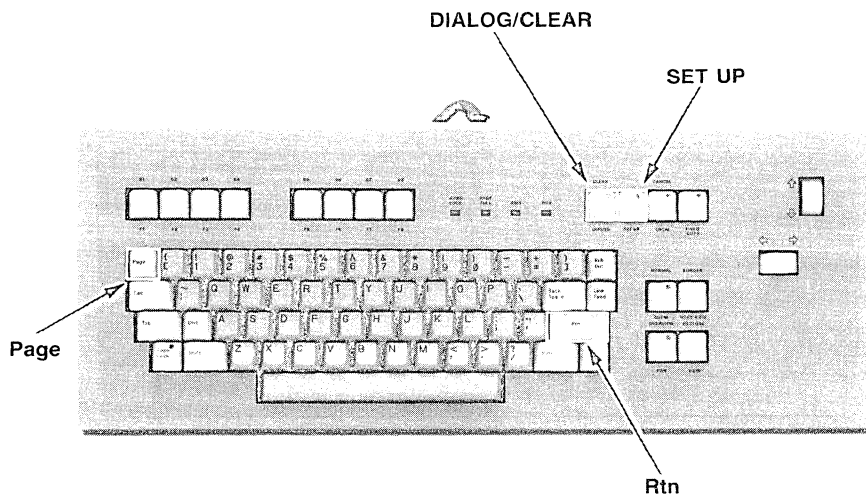

Figure F-4. Page, DIALOG/CLEAR, SET UP, and Rtn keys.
4. Press the DIALOG key (Figure F-4). The light in the key comes on and the dialog area becomes visible. Even though it is visible, you can't see anything in it since it has not yet been enabled.
5. Press the SET UP key (Figure F-4). The light in the key comes on and an asterisk appears at the left margin, next to the cursor.
6. Enter the following setup command to enable the dialog area (the C_R means press the Rtn key, Figure F-4).
8. Press the Page key (Figure F-4). This erases the part of the screen that is not displaying the dialog area. The dialog area is not erased.
9. Press the CLEAR key (Figure F-4) by pressing Shift and DIALOG at the same time. This erases the dialog area but has no effect on the non-dialog portion of the screen.